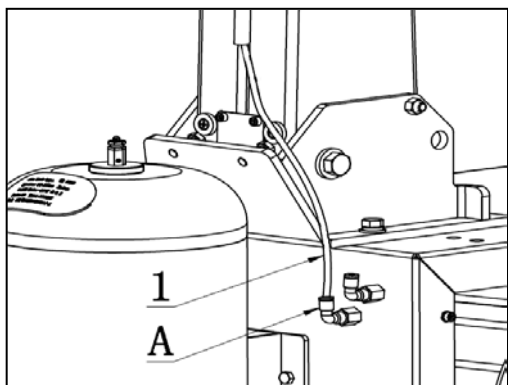

图 13
- f) Connect the column air hose: insert the  $\phi 6$  (FIG13-1) into the connector (FIG13-A) behind the body like FIG13.